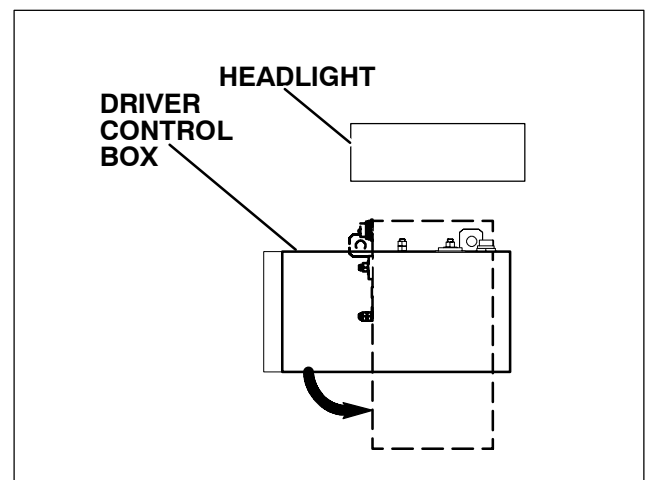

Figure 4-10. Removing Driver Control Box
The driver control box is located behind the return air panel below the passenger side dash and under the right headlight. (See Figure 4-10.) Remove the return air panel by removing the eight screws holding the panel in place. Remove and service the control box by performing the following procedure:
- d. Rotate box counterclockwise 90 degrees as shown in Figure 4-10 and carefully lift the box out.